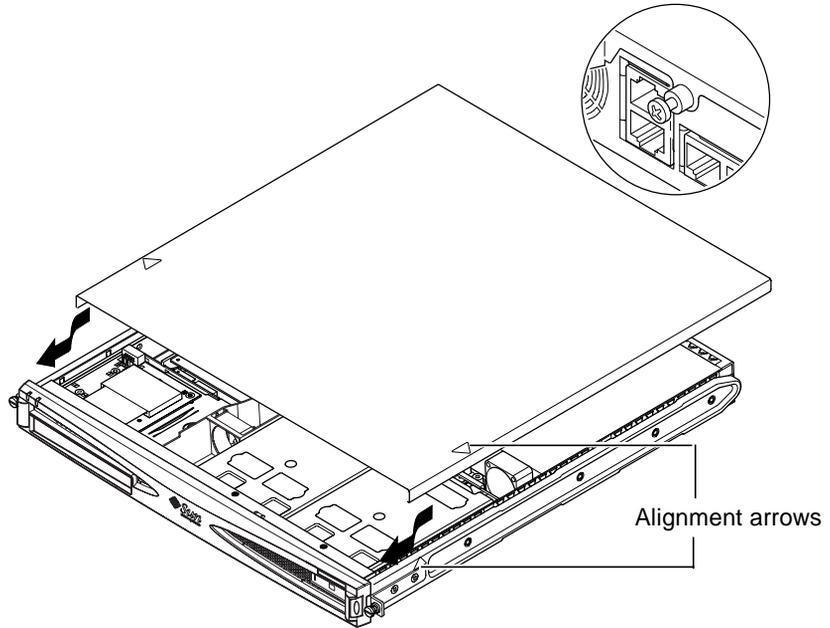

FIGURE 4-9 Replacing the Top Cover
7. Replace the server's cover and tighten the captive screw (see FIGURE 4-9 in Section 4.7, "Replacing the Server's Top Cover" on page 4-14).
5. **Replace the server cover and tighten the captive screw (see FIGURE 4-9 in Section 4.7, “Replacing the Server’s Top Cover” on page 4-14).**
3. Replace the server's cover and tighten the captive screw (see FIGURE 4-9 in Section 4.7, "Replacing the Server's Top Cover" on page 4-14).
8. Replace the server's cover and tighten the captive screw (see FIGURE 4-9 in Section 4.7, "Replacing the Server's Top Cover" on page 4-14).
7. **Replace the server cover and tighten the captive screw (see FIGURE 4-9 in Section 4.7, “Replacing the Server’s Top Cover” on page 4-14).**
3. **Tighten the captive retaining screw at the rear (see FIGURE 4-9).**